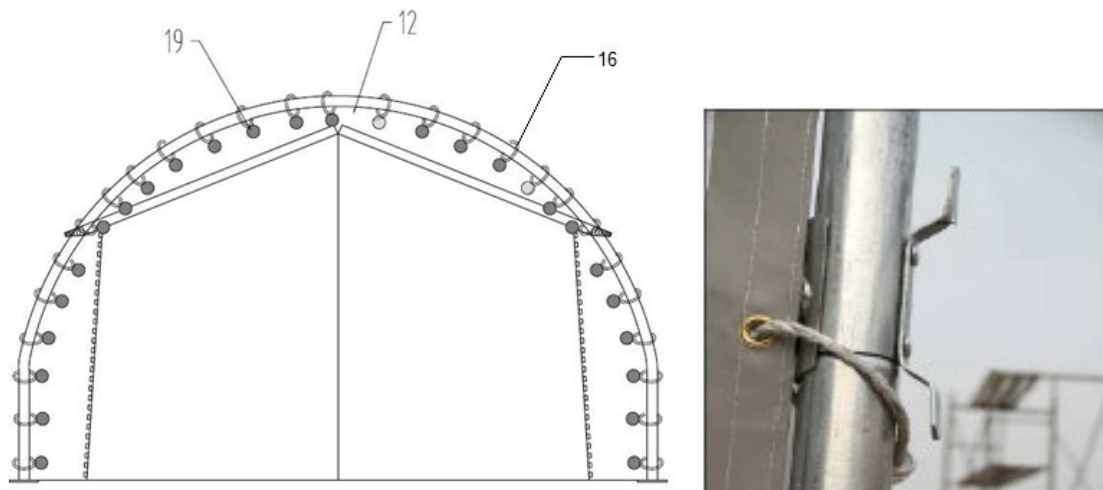

Figure 9
1. Use the tension ball for end cover (component 19) and the knitting rope to lace the front cover (component code 12) onto the frame, as shown in *Figure 9*.
2. The cover is tied to the frame, door tube, and side rails using the knitting rope, as shown in *Figure 9*.
4. Repeat the same procedure for the back cover. Refer to *Figures 9 and 10*.